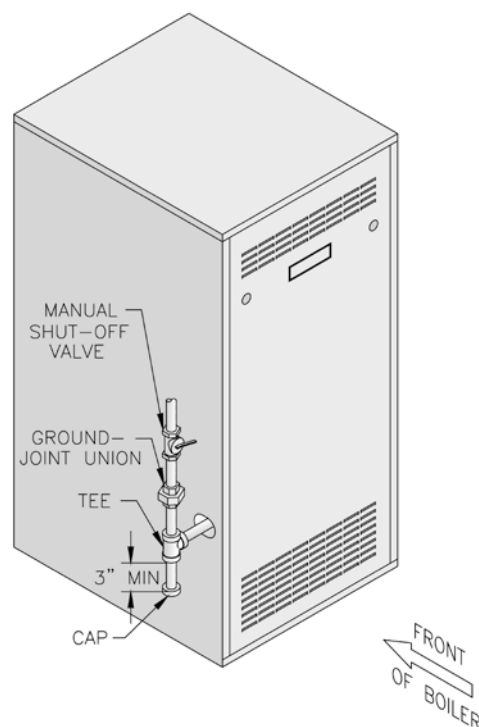

Figure 29: Recommended Gas Piping
3. Install sediment trap, ground-joint union and manual shut-off valve upstream of boiler gas valve and outside jacket. See Figure 29.